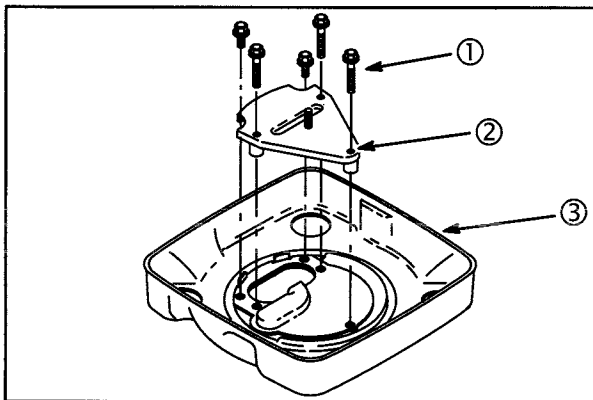

Fig. 5
2. Remove five screws (1) and carburetor shield (2), Fig. 5.
3. Disconnect breather tube at air cleaner base and remove air cleaner base (3).